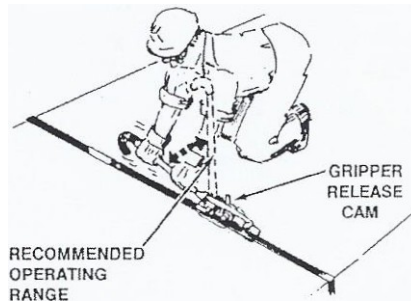

FIGURE 3.
3. Bring tensioning handle upward, allowing the gripper to contact the lower strap. Move tensioning handle up and down to take up slack in strap. When strap is snug, the operator should kneel perpendicular to the strap as shown in Figure 3 and apply the final tension. When tensioning is complete, leave the tensioning handle perpendicular to the base. See Figure 4.
While tensioning strap, do not rotate the tensioning handle to the point where it will contact the gripper release cam, see Figures 3 and 4. This will result in a loss of strap tension. Care should be exercised when applying final tension. Excessive tension can cause strap breakage. The operator should be positioned in such a manner that strap breakage or hands slipping off the handle will not cause a loss of balance. Never increase the length of the tensioning handle by any means such as slipping a pipe over the handle to extend its length.